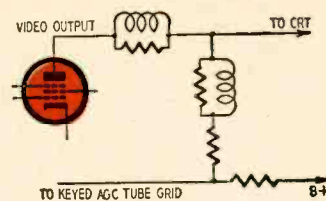
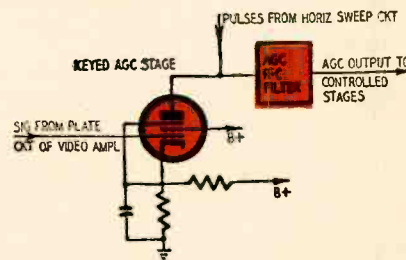

Fig. 5—Defective video amplifier changes grid potential of agc tube.
Fig. 6—Agc stage—when defective may develop excessive agc voltage.
a. *No picture, no sound. Raster normal.* The most common causes for this trouble are the tubes through which both the video and sound signals pass. First change the rf amplifier, oscillator and mixer tubes in the front end; video (common) if tubes and other common video-sound stages such as the video detector and, in some intercarrier sets, the video amplifier. Less common possibilities which should not be overlooked are: last video amplifier stage (Fig. 5), sound output tube and agc tube (Fig. 6).